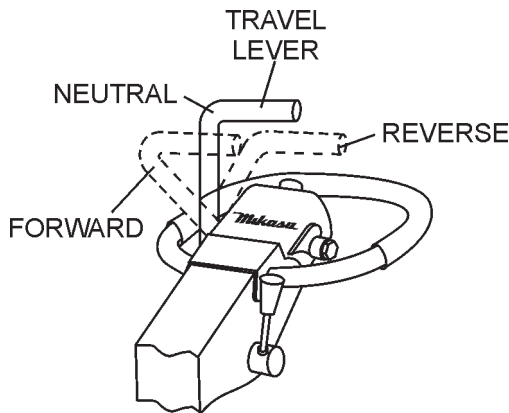

Figure 22. Travel Lever
- To make the compactor move in the forward direction push the travel lever ( Figure 22) forward.
- To make the compactor move in the reverse direction pull the travel lever ( Figure 22) backwards.